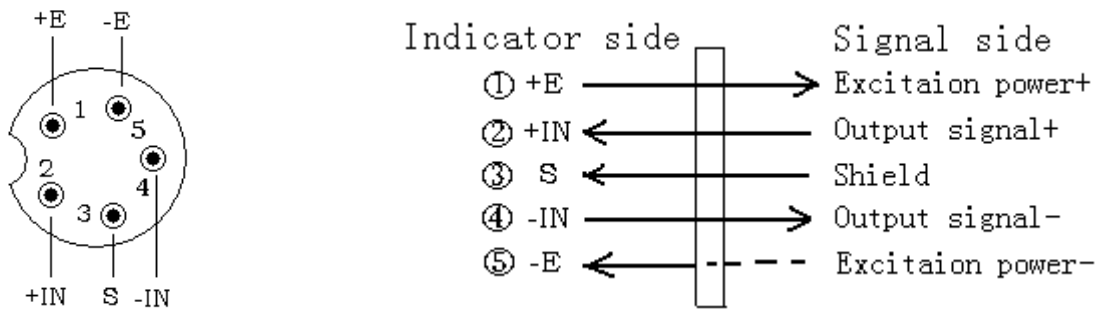

Figure 4b: Wire-connecting between load cell and 5-core aerial pin-outlet
4.2.1 If the 5-core aerial outlet is used for the load cell connecting, see Figure 4b.